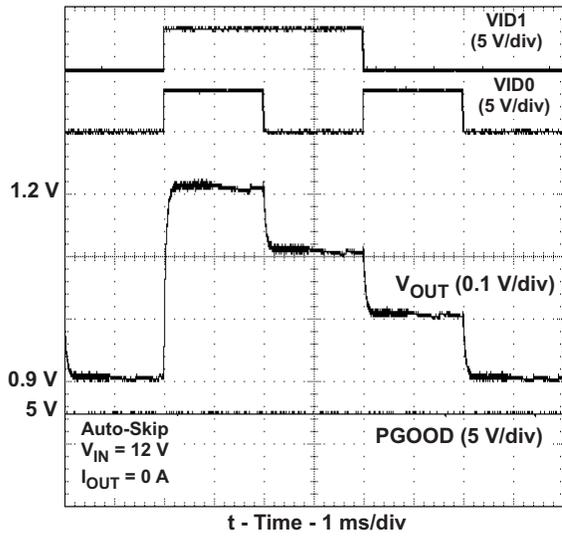

Figure 17. Output Voltage Step-Down
2. Ensure pulse configuration is Return-to-Zero (RZ) with 50% duty ratio.
3. Run the pulse generator.  $V_{OUT}$  steps down from 1.2 V to 0.9 V as shown in Figure 17.